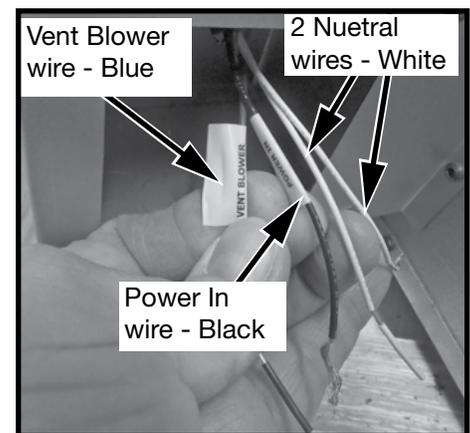
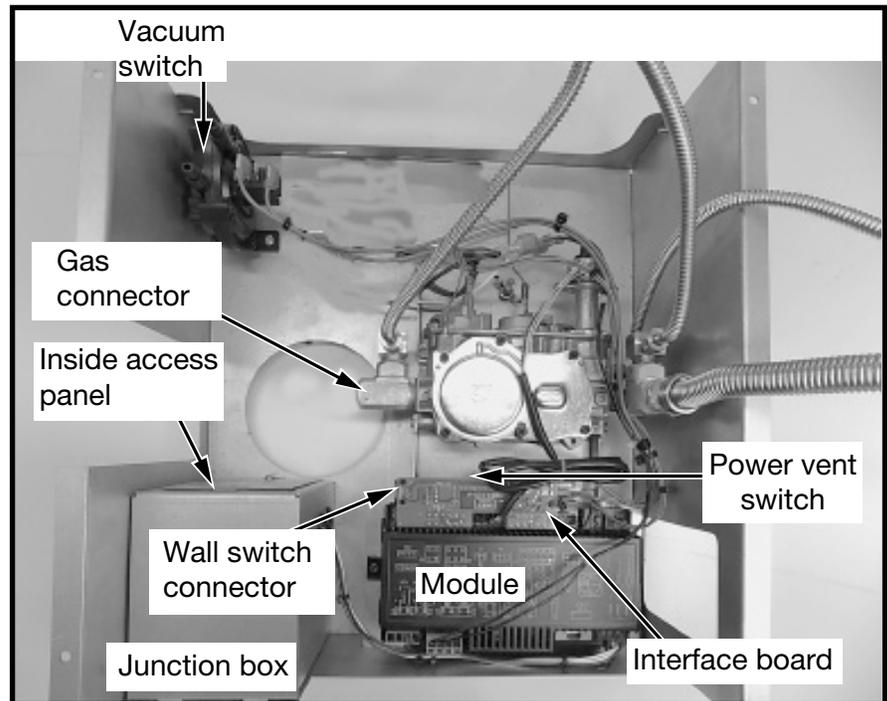
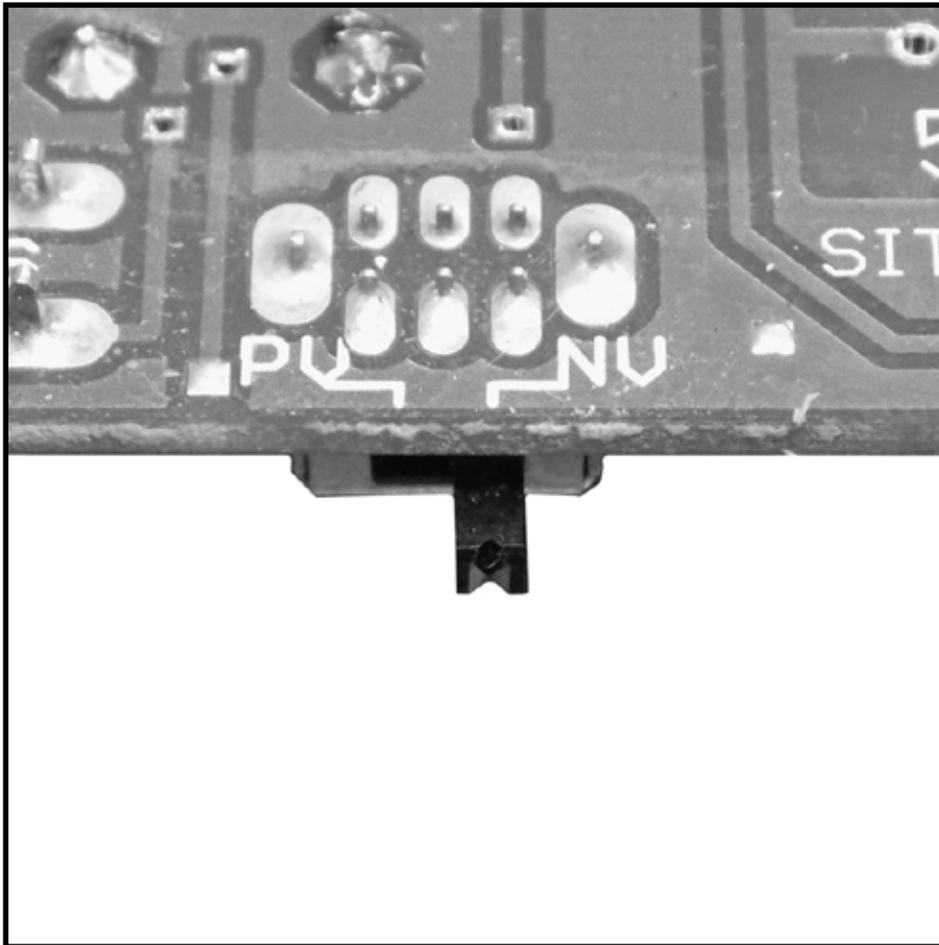

Figure 24: Junction box wiring.
Figure 25: Valve assembly components.
Figure 30: Natural vent - Power vent switch.
4. Connect 110 V. AC electrical supply to the wires installed inside the junction box - (Figure 24). The fireplace is rated at 110 volts, 60Hz, 0.25A. The optional power vent kit is rated at 115 volts, 60Hz, 1.8A.
The electrical wires can be accessed from both inside and outside the junction box by removing one of the two small access panels (Figure 24) & (Figure 25).
7. Attach one end of the wall switch control cable to the wall control. (Figure 28) , and the other end to the interface board (Figure 25).
The NV / PV (Natural Vent / Power Vent) switch (Figure 30) on the interface board (Figure 25) is set according to which type of evacuating vent system is present. If the fireplace is vented without the assistance of a power vent, the switch should be set to “NV”. If using a power vent, “PV” should be selected. Follow the instructions provided with the power vent kit for proper installation.
1. Connect the gas supply to the gas connector (Figure 25).